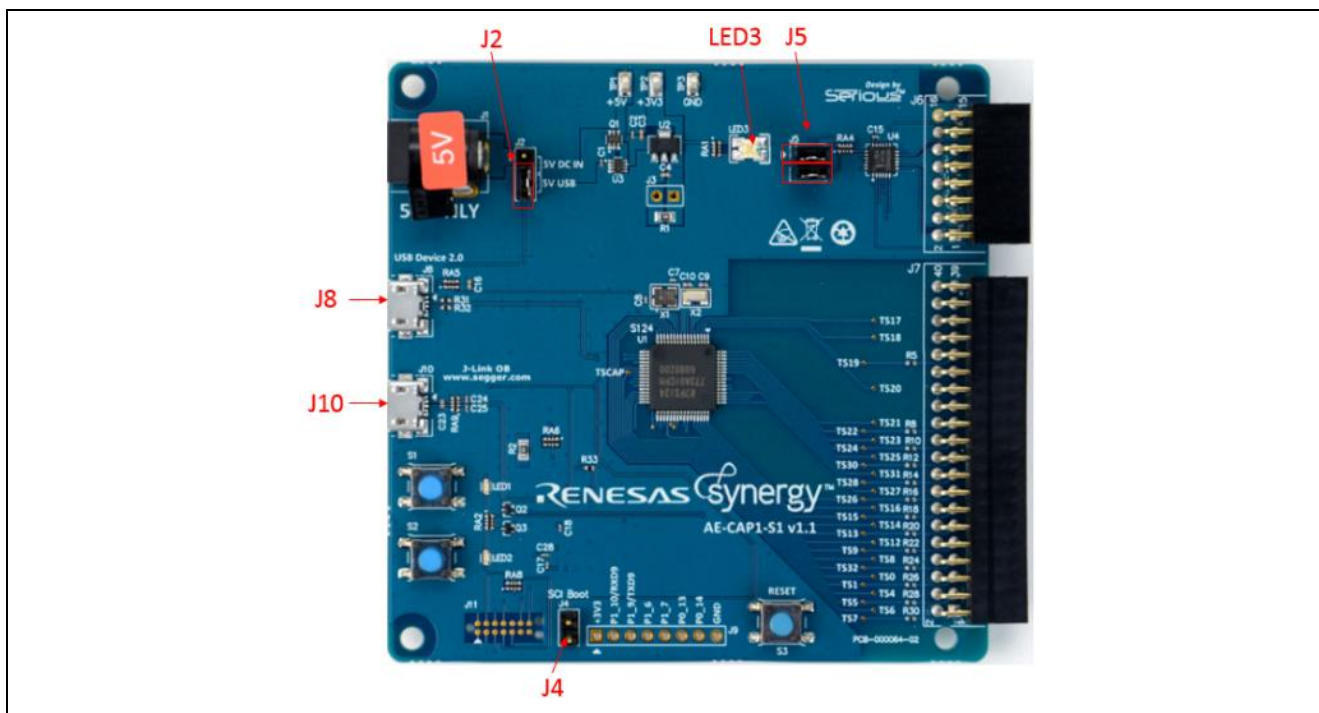

Figure 29. AE-CAP1-S1 Setting for Application Board LED Control
Leave jumper J4 open, oriente jumper J2 towards the USB Device and Install jumpers for J5 as shown in Figure 29.
1. On AE-CAP1-S1, leave jumper J4 open, orient jumper J2 towards the USB Device. **Un-install jumpers from J5 (leave J5 open).** See Figure 29 for locations of J4, J2, and J5.
1. On AE-CAP1-S1, leave jumper J4 open, orient jumper J2 towards USB Device and **un-install jumpers from J5 (leave J5 open)**. See Figure 29 for locations of J4, J2, and J5.